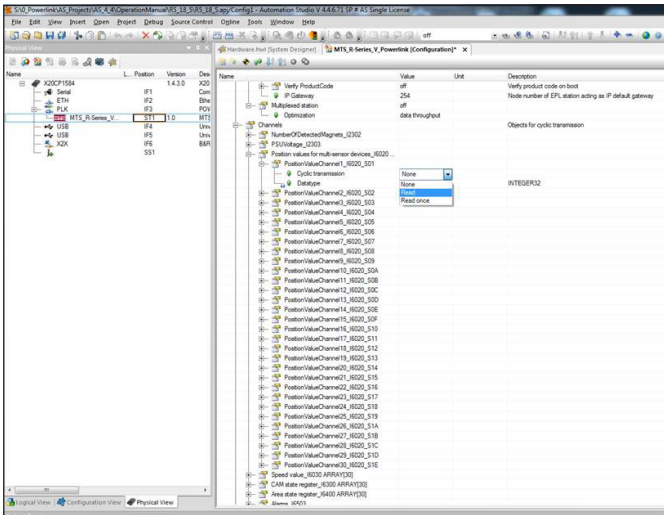

Fig. 94: Activating the mapping of the parameters of the group "Channels"
- Channels: Measurement data of the sensor, that can be transferred cyclically. To activate cyclic transmission of a specific data item, click on the data item column called "Value" and change the entry from "None" to "Read" (Fig. 94).